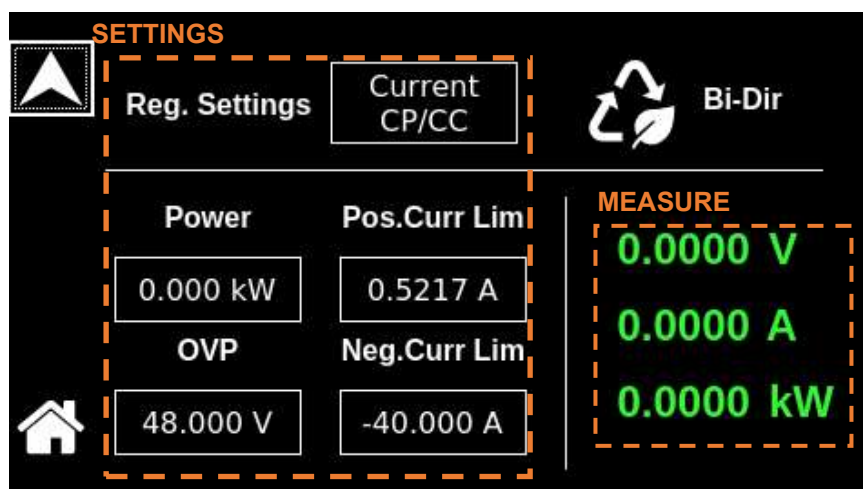

**Figure 8-12. Dashboard Screen in CP/CC Mode**
a) **Current** – CP/CC Regulation setting is shown in Figure 8-12,